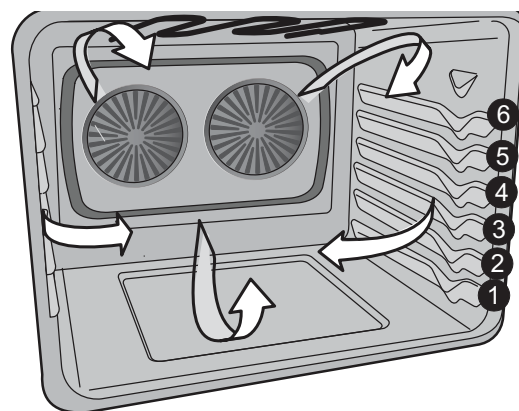

Figure 11: Rack positions
2. Place pan in oven on rack position 3 (Figure 11) and close oven door. Accela-Heat is designed for baking on a single oven rack placed in the center of the oven.